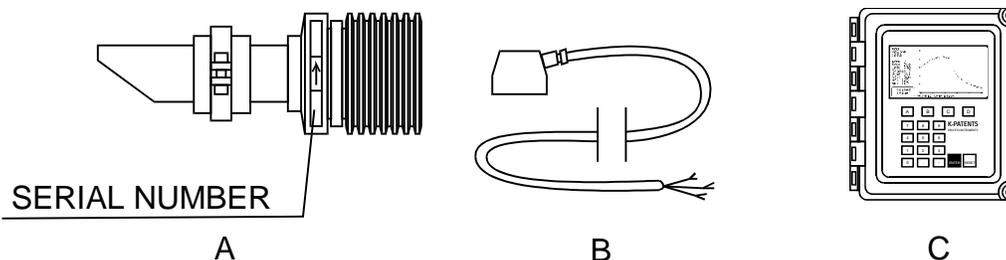

Figure 2.10 Equipment
The K-Patents Process Refractometer consists of three parts (Figure 2.10): the Sensor (A), the Interconnecting Cable (B) and the Indicating transmitter (C). *For description of the intrinsically safe K-Patents Process Refractometer, see Chapter 12.*
Identification: By Serial Number (S/N) label (Figure 2.11) on the Indicating transmitter front panel and by Serial number on sensor label (Figure 2.10, Figure 2.12), e.g. 92A25-1088. The sensor type, e.g. 57, is stamped on the probe tip (Section 5.6).